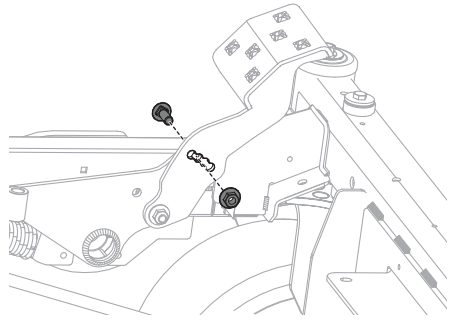

Figure 36
4. Reinstall the hardware previously removed and torque the hex nut to 28-35 ft-lbs (38-47 N-m) (Figure 36).
2. Remove the carriage bolt and hex nut near the center of the pedal assembly (Figure 36).